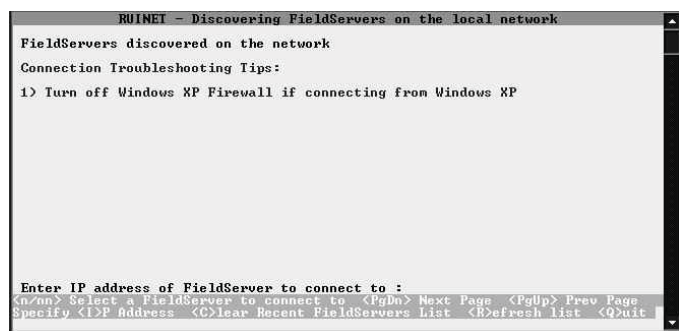

Figure 9: RUINET PT-Link II Specify IP Address
2.) If RUINET is in the desktop directory (if it isn't, locate its directory), double-click on RUINET, and the RUINET program should run. Initially, you might see the screen below (**Figure 9**). Type  for Specify IP Address and the message "Enter IP Address of the Field Server to Connect to" will appear on the screen.